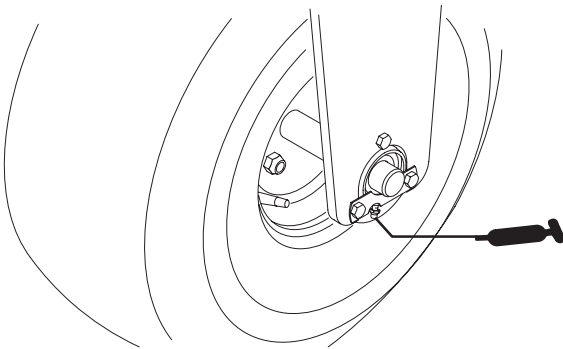

Figure 12
- Front wheel bearings (Qty. 2) (Fig. 12)